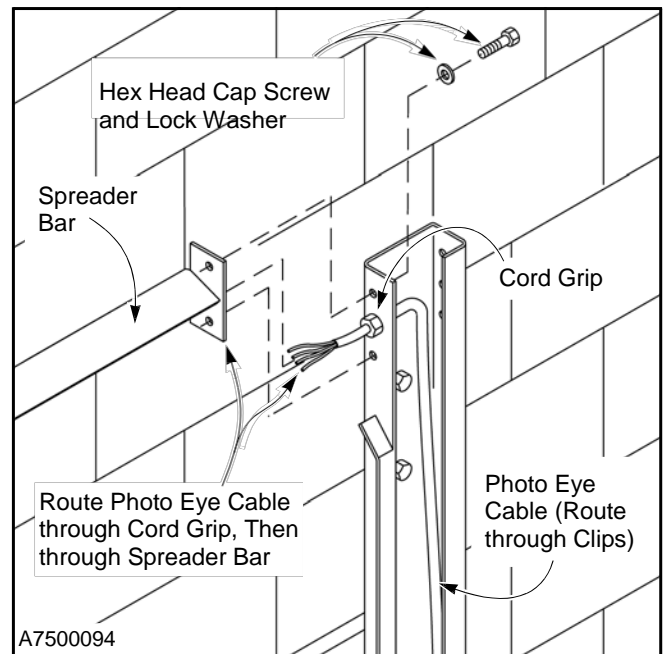

Figure 17
2. Unroll the cable and pass the free end through the cord grip located near the top of the side column. Make sure to route the cable through the cord clips located in the column before passing it through the cord grip. (See Figure 17.)